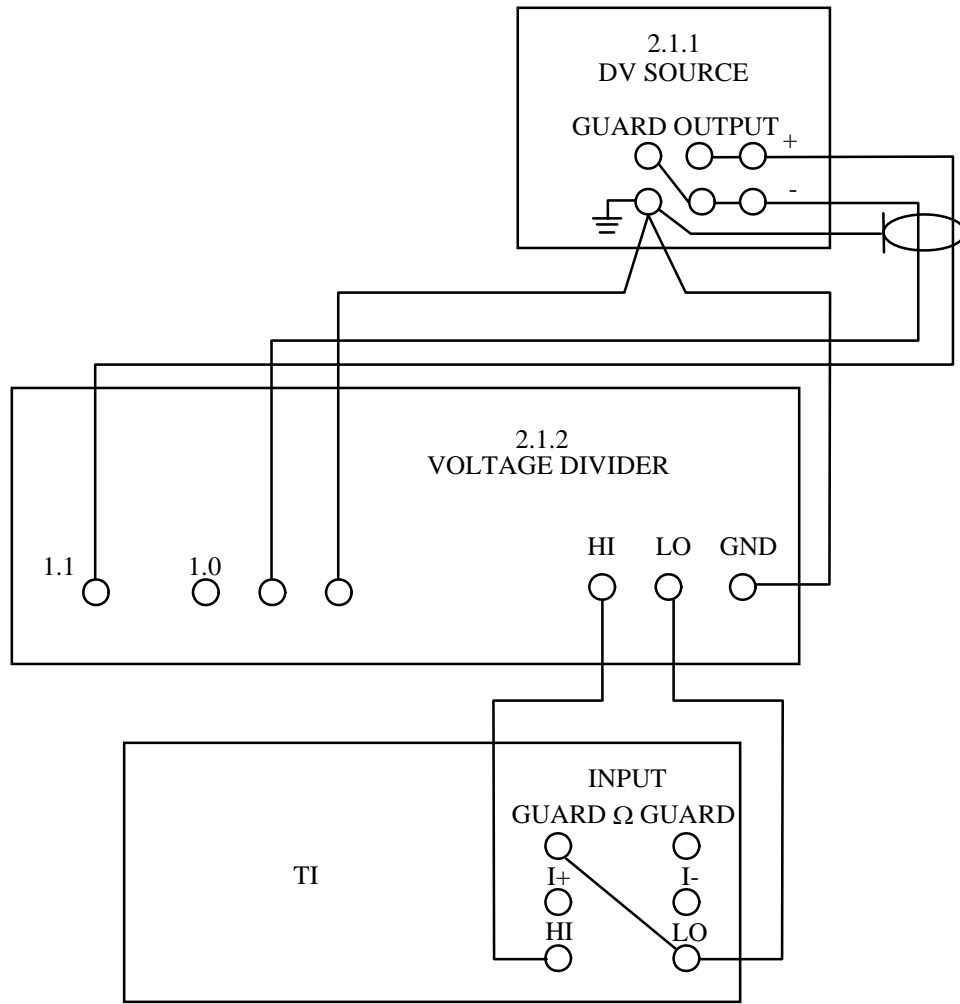

Figure 2. DC Voltage Tests (20 V or less)
4.1.3 Taking precautions, disconnect the ERS (item 2.1.5) and the null detector from the reference setup. Connect the TI as shown in Figure 2.